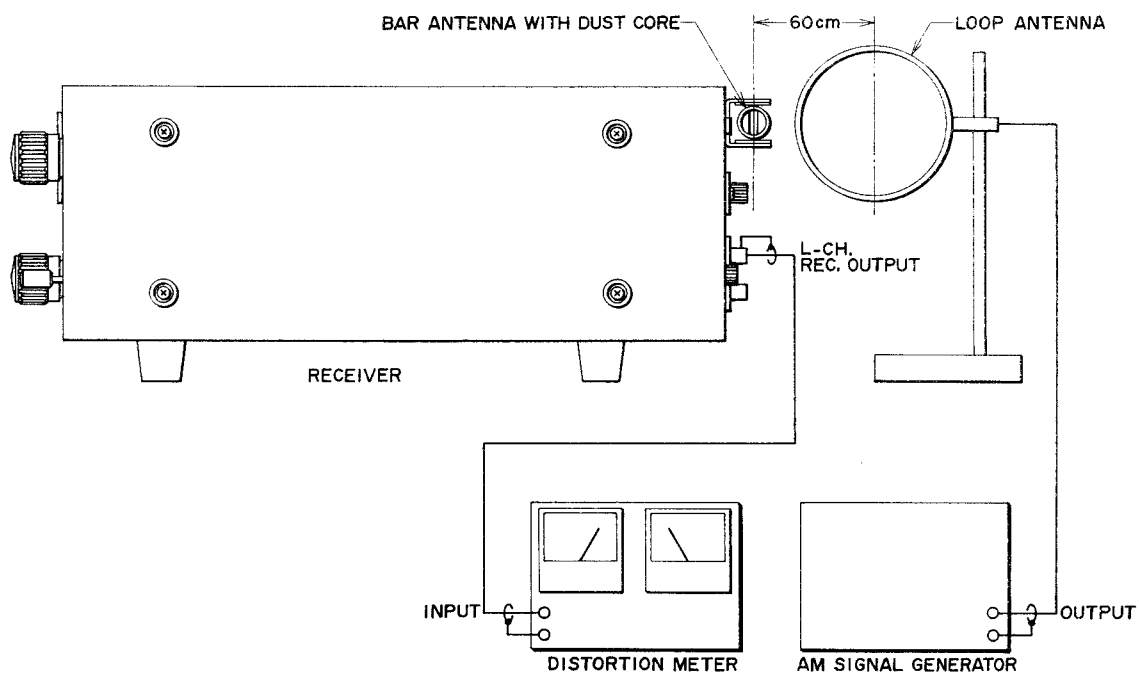
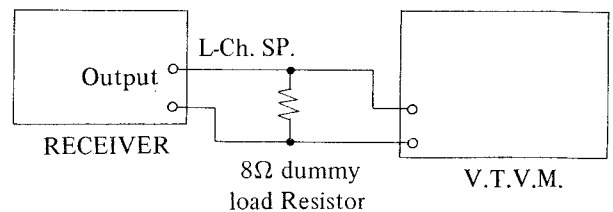

Fig. 24
Fig. 26
- 1) Connect the various measuring instruments as shown in Fig. 24.
- 4) Adjust the core of bar antenna shown in Fig. 24 so that the distortion meter level is maximum and the distortion factor is minimum (less than 10%).
- 1) Connect the various measuring instruments as shown in Fig. 24, deleting the distortion meter connected to the left channel Rec. output terminal. Then connect an 8Ω dummy load resistor in series with a high sensitivity V.T.V.M. and connect this to the left channel speaker output terminal of the receiver as shown in Fig. 26.
- 1) Connect the various measuring instruments as shown in Fig. 24, deleting the distortion meter connected to the left channel Rec. output terminal, and connecting a high sensitivity V.T.V.M. to this terminal.
- 1) Connect the various measuring instruments as shown in Fig. 24, deleting the distortion meter connected to the left channel output terminal. Then connect an 8Ω dummy load resistor in series with a high sensitivity V.T.V.M. and connect this to the left channel speaker output (see Fig. 26).